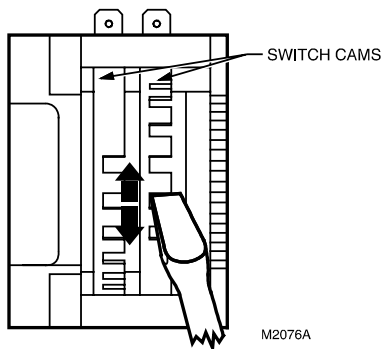

Fig. 14. Auxiliary switch cam adjustment.
4. With a screwdriver, move the cam inside the switch assembly to the appropriate position, remembering the direction of cam travel for switching purposes (see Fig. 14) when turning the switch on or off. The closure of the switch should be monitored with an ohmmeter for a continuity check. The normally closed contact should measure zero ohms and the normally open contact should measure infinite ohms when the switch is not activated. The opposite is true when the switch is activated.